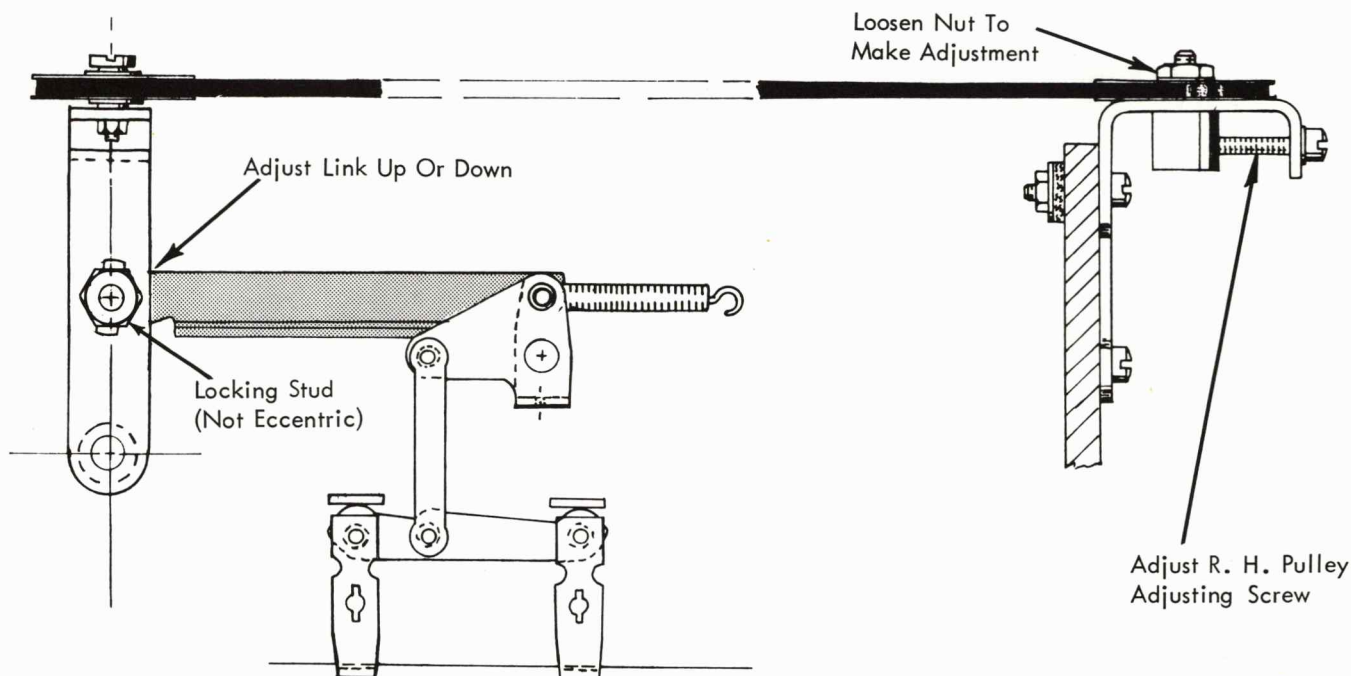

FIGURE 63. Tilt Mechanism
3. Tilt Arm Motion - Adjust the tilt link up or down on the tilt arm (Fig. 63) to control the tilt ring motion so that the tilt ring will coarse align the same for a 3-tilt character as it does for a zero-tilt character.
In order to check this adjustment, it is necessary to roughly home the tilt ring first. To rough home, half-cycle a zero-tilt character and adjust the right hand tilt pulley (Fig. 63) so that the tilt detent will enter slightly on the rear side of the V-shaped detent notch in the tilt